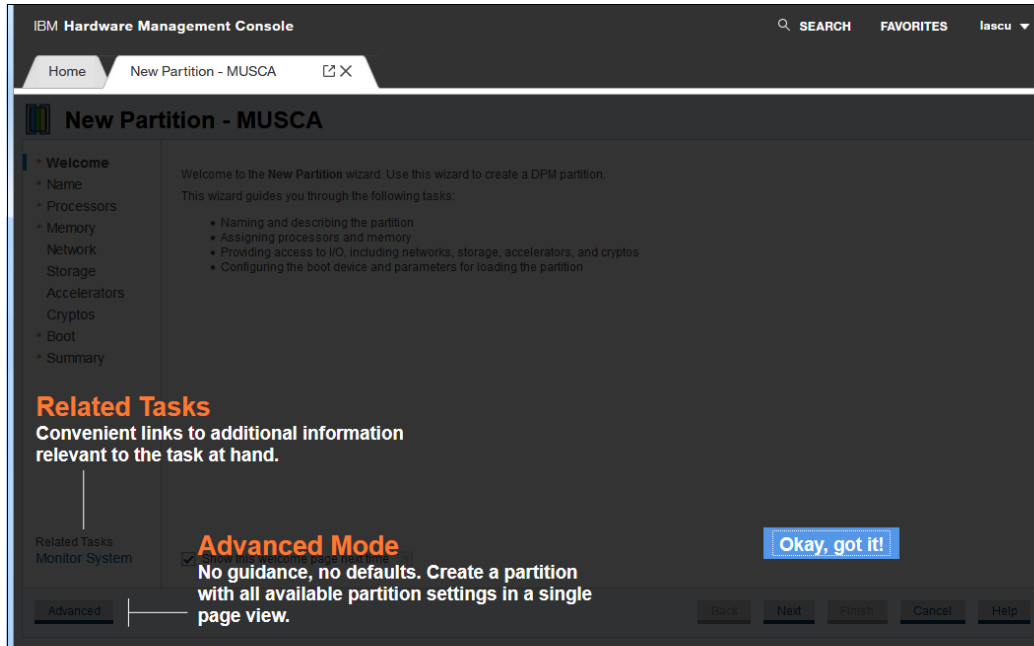

Figure 16-29 Emphasizing the configuration menus options (Standard / Advanced)
2. The menu that is shown in Figure 16-29 opens. We select **Okay, got it** to use the standard partition configuration menus.